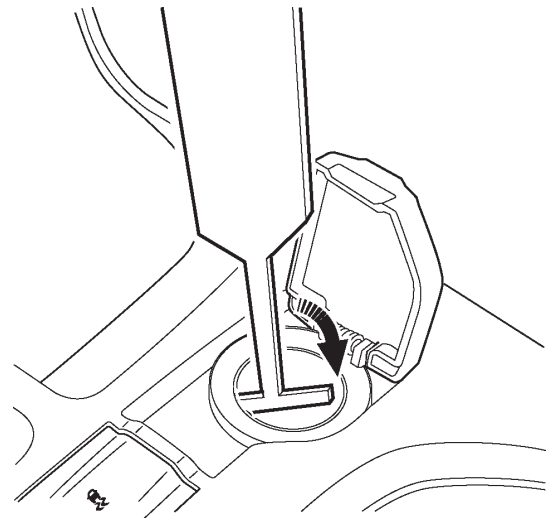

FIGURE 3
5. Insert the special service tool (1) (J42059) into the power socket (2) at an angle and into the slots in the side of the socket. Support the cover and use the tool to pull the inner steel sleeve of the socket out from the socket bezel (3).
8. Align the notch on the steel sleeve of the cigarette lighter body with the notch in the bezel and push in. Refer to figure 3.